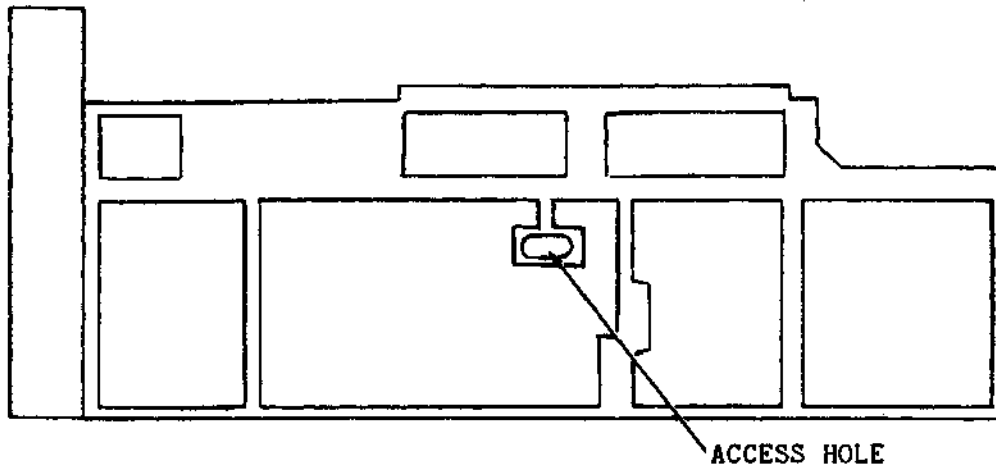

Figure 4-7. Track Zero Adjustment Access
- 2) Turn the track zero adjustment screw (see Figure 4-7) to set the DC level to its nominal value of +2.0 volts.